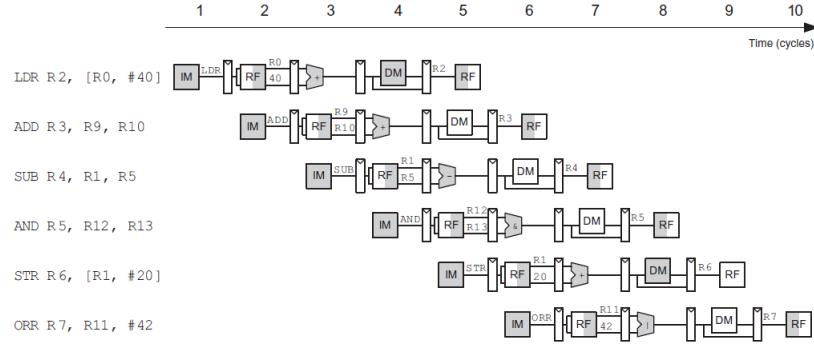

Figure 7.5 Abstract view of pipeline in operation
Figure 7.5 shows an abstracted view of the pipeline in operation in which each stage is represented pictorially. Each pipeline stage is represented with its major component—instruction memory (IM), register file (RF) read, ALU execution, data memory (DM), and register file writeback—to illustrate the flow of instructions through the pipeline. Reading across a row shows the clock cycles in which a particular instruction is in each stage.
A central challenge in pipelined systems is handling **hazards** that occur when the results of one instruction are needed by a subsequent instruction before the former instruction has completed. For example, if the ADD in Figure 7.5 used R2 rather than R10, a hazard would occur because the R2 register has not been written by the LDR by the time it is read by the ADD. After designing the pipelined datapath and control, this section explores *forwarding*, *stalls*, and *flushes* as methods to resolve hazards.